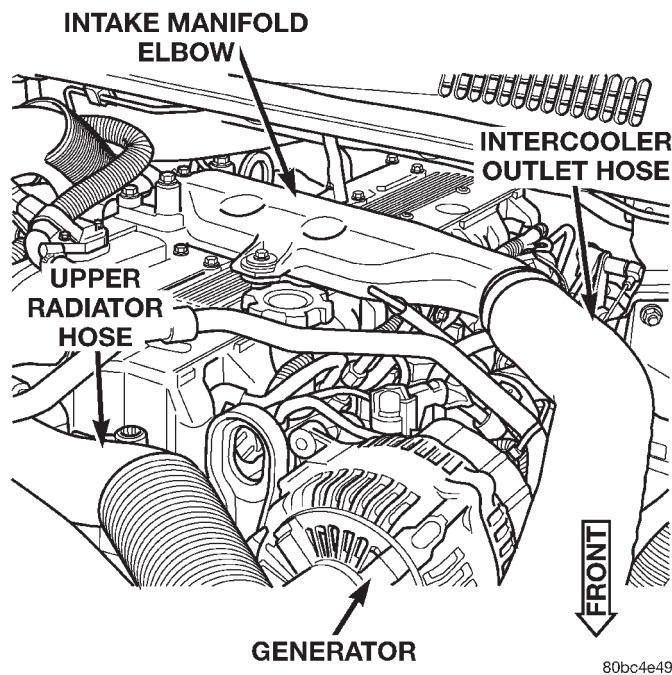
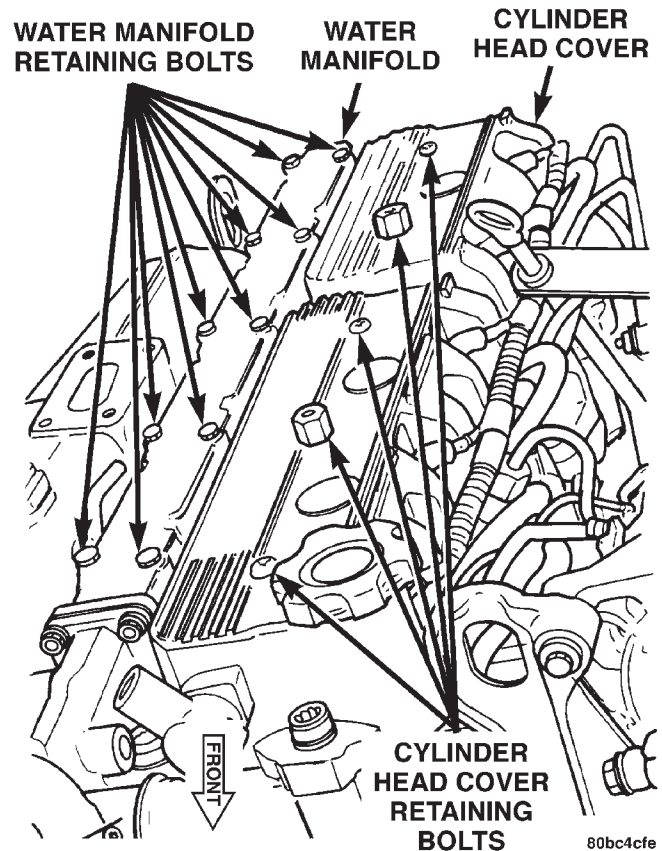

Fig. 46 Intake Manifold Elbow
Fig. 47 Cylinder Head Cover
(1) Disconnect the negative battery cable.
(2) Recover the refrigerant system. Refer to Group 24, Heating and Air Conditioning for the procedure.
(3) Raise the vehicle on the hoist.
(4) Remove the front splash shield.
(5) Remove the low pressure refrigerant line retaining bolt and remove the line from the compressor. Cover both openings.
(6) Remove the left engine mount throughbolt nut. Do not remove the bolt at this time.
(7) Lower the vehicle on the hoist.
(8) Remove the intake manifold elbow inlet hose (Fig. 46).
(9) Remove the intake manifold elbow (Fig. 46).
(10) Remove the refrigerant line support bracket retaining bolt from the cylinder head cover and position the refrigerant line out of the way.
(11) Disconnect the (5) glow plug electrical connectors and position the wire harness out of the way.
(12) Remove the Crankcase breather hose from the front of the cylinder head cover.
(13) Remove the cylinder head cover retaining bolts (Fig. 47).